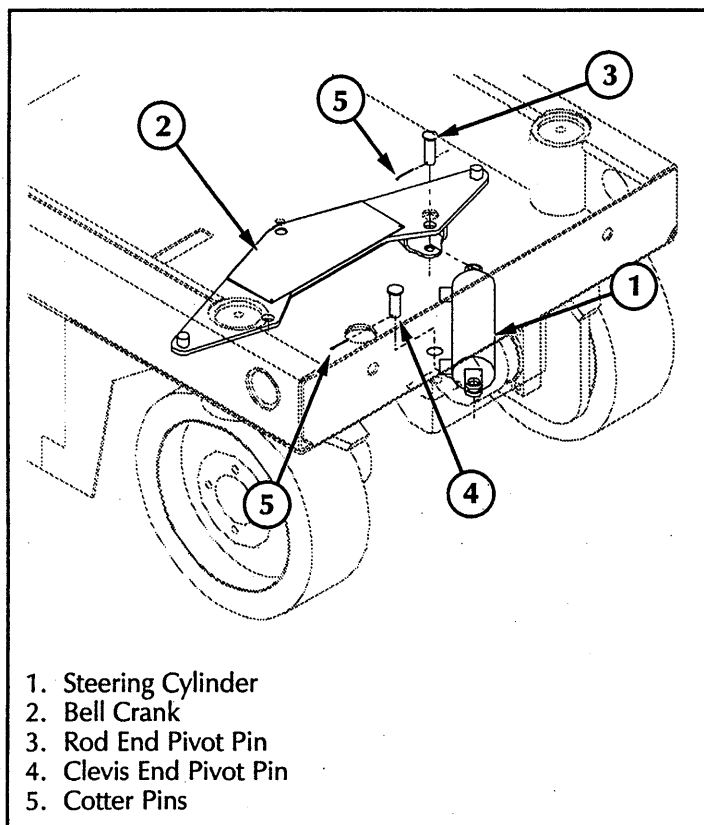

Figure 4-11: Steering Cylinder Installation
4.11 Steering Cylinder (Figure 4-11)